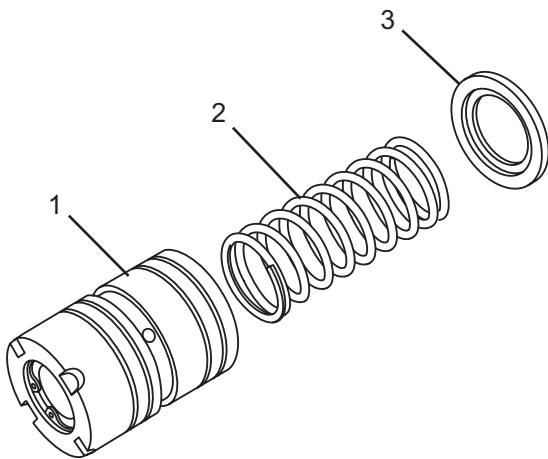

Figure 39
6. Slide the spool (Figure 39, Item 1), spring (Figure 39, Item 2), and washer (Figure 39, Item 3) out of the housing.